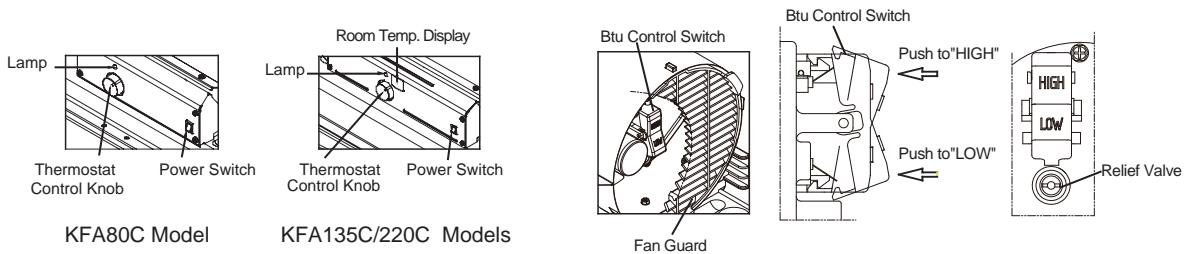

Figure 8. Controls for All Models
- 4) Position the Handles on top of fuel tank flange. Insert screws through handles, fuel tank flange and wheel support frames as shown in Figure 8 and attach nut finger tight after each screw is inserted.
5. Push “BTU control Switch” to “High” level. (See Figure 8.)